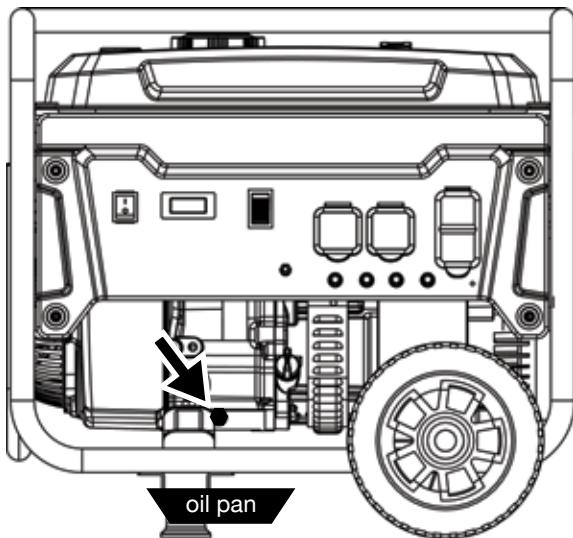

Figure 25 - Oil Drain Plug
4. Place oil pan (or suitable container) under the oil drain plug (see Figure 25).
6. Remove the oil drain plug (see Figure 25). Once removed, place the oil drain plug on a clean surface.